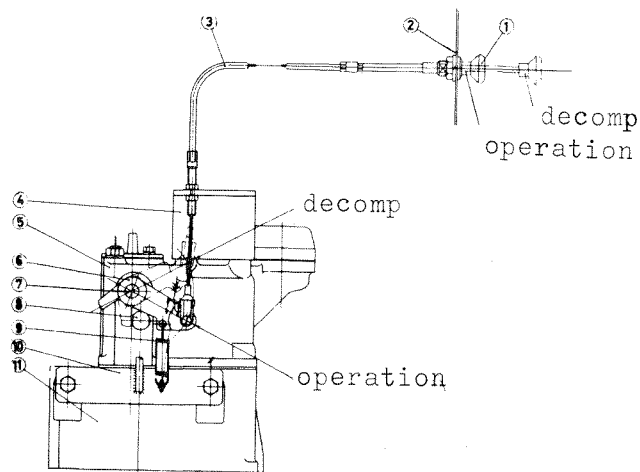

Fig. 20 Decomp Device
④ The decomp system should be assembled in the correct way as shown in Fig. 20. The illustration